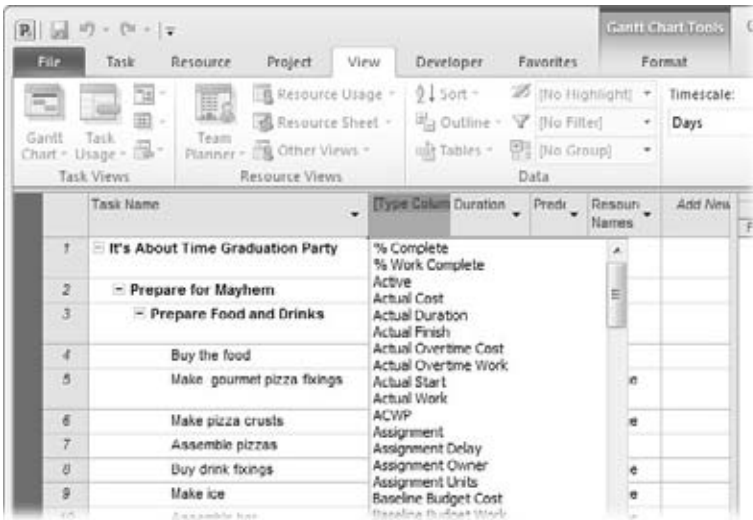

Figure 23-19:
- **Add a column.** Right-click the column heading to the right of the new column, and then choose Insert Column. In the “Field name” drop-down list, choose the field, as shown in Figure 23-19. To quickly scroll to the field you want, start typing the field name. Project selects the first field that matches the letters you've typed. You can also click the Add New Column heading in the last column of the table, and then choose the field you want from the drop-down list.